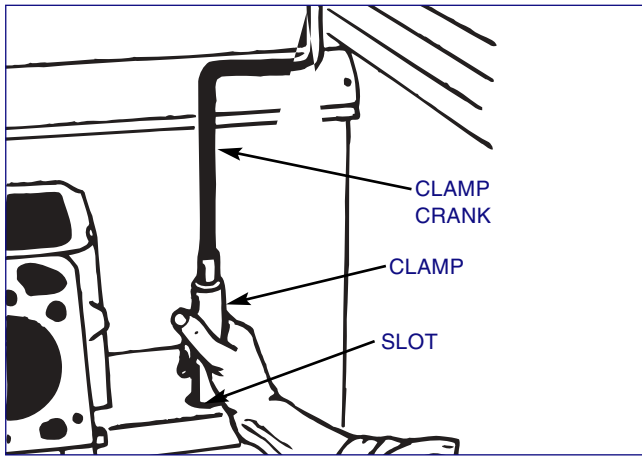

FIGURE 3-25, Clamping
7. Slide Clamps to slots in ends of Clamp Bar (*see Figure 3-25*). It may be necessary to shift position of engine block so that both Clamps will slide into slots at ends of Clamp Bar.